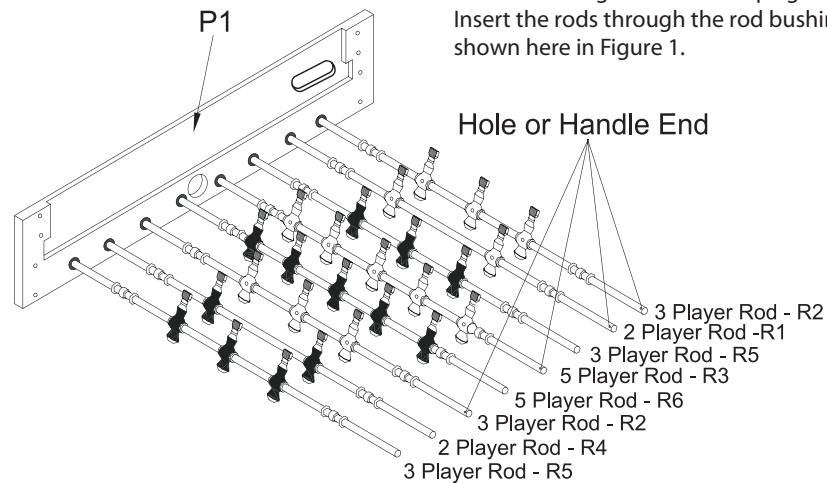

Figure 1
2. Place one side panel P1 up-side-down with the finished side facing out as shown in Figure 1. The ball entry hole will be closest to the floor. To ease assembly, push the rubber bushings on the rods up against the men. Insert the rods through the rod bushing in one side as shown here in Figure 1.
3. Align the rods as shown in **FIGURE 1**. Choose one team to be color # 1 and one team to be color # 2. The handle end of the rod has a hole close to the end of the rod. There will be four handles (one team) on each side of the table. Remember, the goalie rod is always in your left hand when the table is in the upright position and you are working upside down so it will be opposite during assembly.